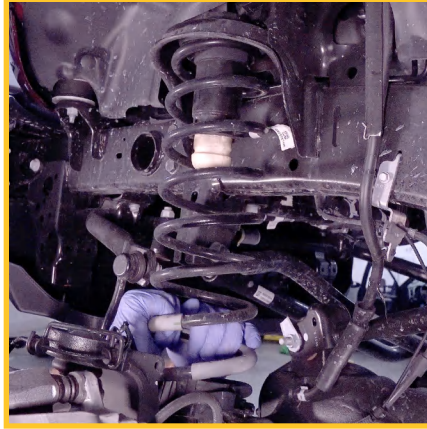

FIGURE 9
5. Lower the axle and remove the coil springs. (FIGURES 9, 10)